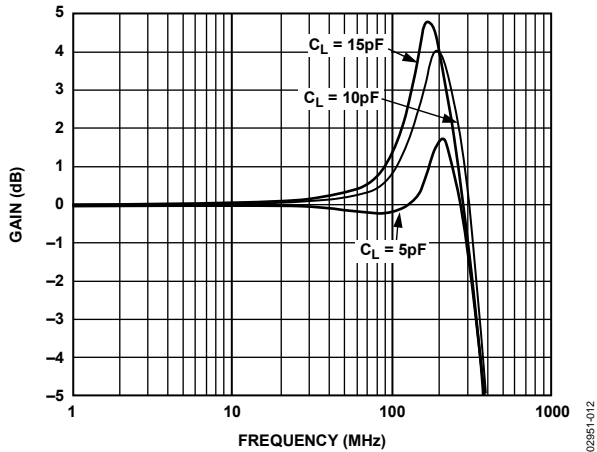
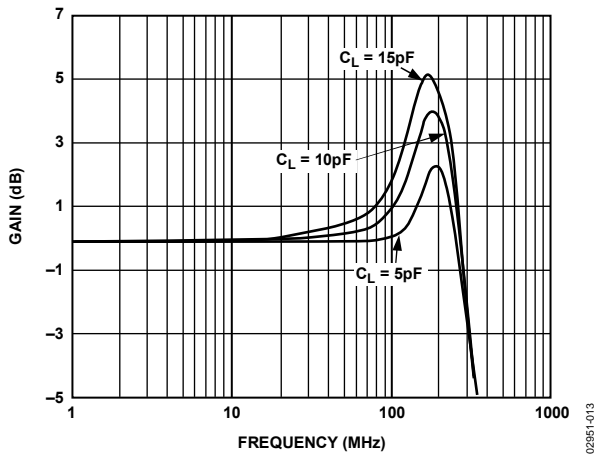
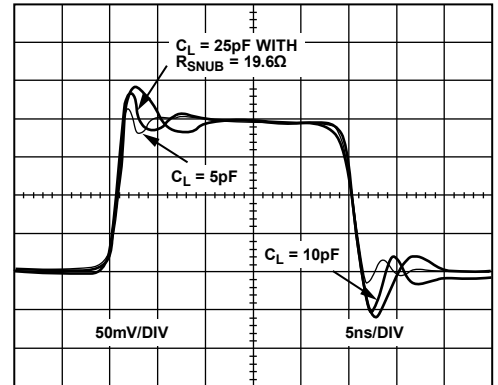
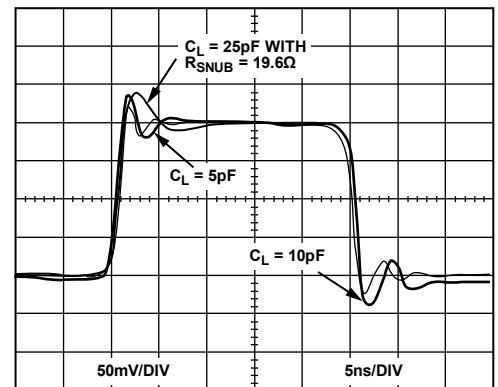

Figure 12. Small Signal Frequency Response for Various C_L , $V_{OUT} = 500\text{ mV p-p}$, $V_S = \pm 5\text{ V}$, $G = +1$
Figure 13. Small Signal Frequency Response for Various C_L , $V_{OUT} = 500\text{ mV p-p}$, $V_S = 5\text{ V}$, $G = +1$
Figure 27. Small Signal Transient Response for Various C_L , $V_S = 5 V$
Figure 28. Small Signal Transient Response for Various C_L , $V_S = \pm 5 V$
- Put a small value resistor in series with the output to isolate the load capacitor from the output stage of the amplifier, see Figure 12, Figure 13, Figure 27, and Figure 28.